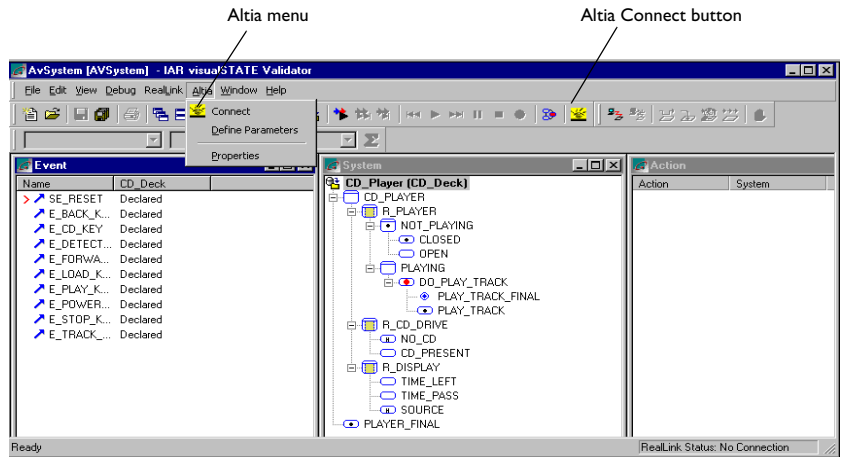
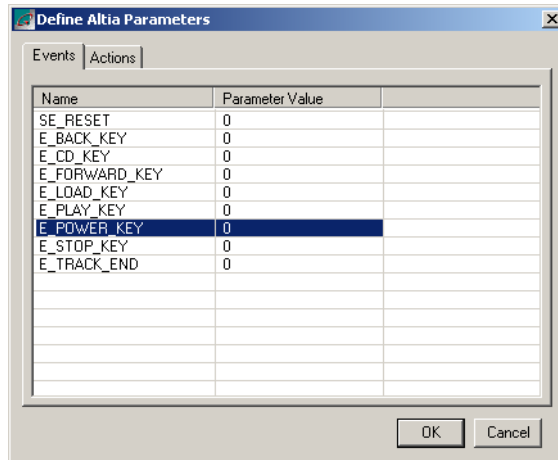
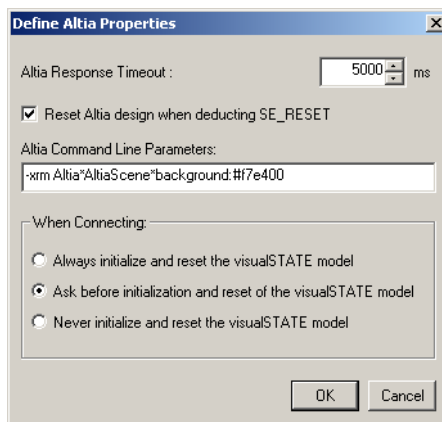

Figure 196: Validator Altia Connect commands
Figure 200: Define Altia Parameters dialog box, Event tab (Validator)
Figure 201: Define Altia Properties dialog box (Validator)
- 2 Choose `Altia>Connect` on the menu, or click the **Altia Connect** button (see *Figure 196*, page 282).
To assign fixed Altia parameter values to visualSTATE events and action functions, choose Altia>Define Parameters on the Validator menu (see *Figure 196*, page 282). This will open the Define Altia Parameters dialog box shown in *Figure 200*, page 288.
- I Choose Altia>Properties on the Validator menu (see *Figure 196*, page 282). This will open a Define Altia Properties dialog box where you can configure the Altia connection (see *Figure 201*, page 289).
Here you can type a series of space-separated arguments to be passed on to the Altia application when it is launched. An example of user-specified command line parameter is shown in *Figure 201*, page 289. For a description of recognized command line parameters, refer to the Altia documentation.